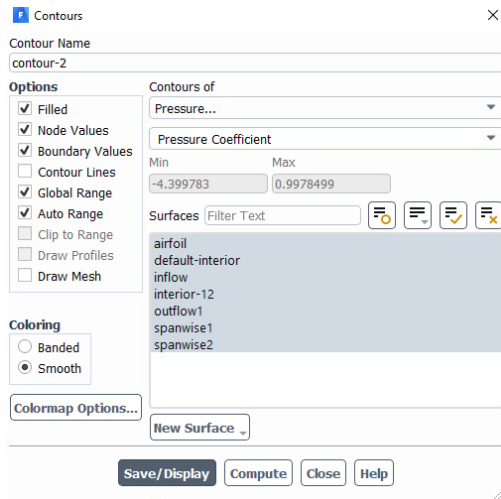

Figure 34. Options for the pressure contours.
6.2.2. In the “Contours” pop-up window, select the options as shown in Figure 34.